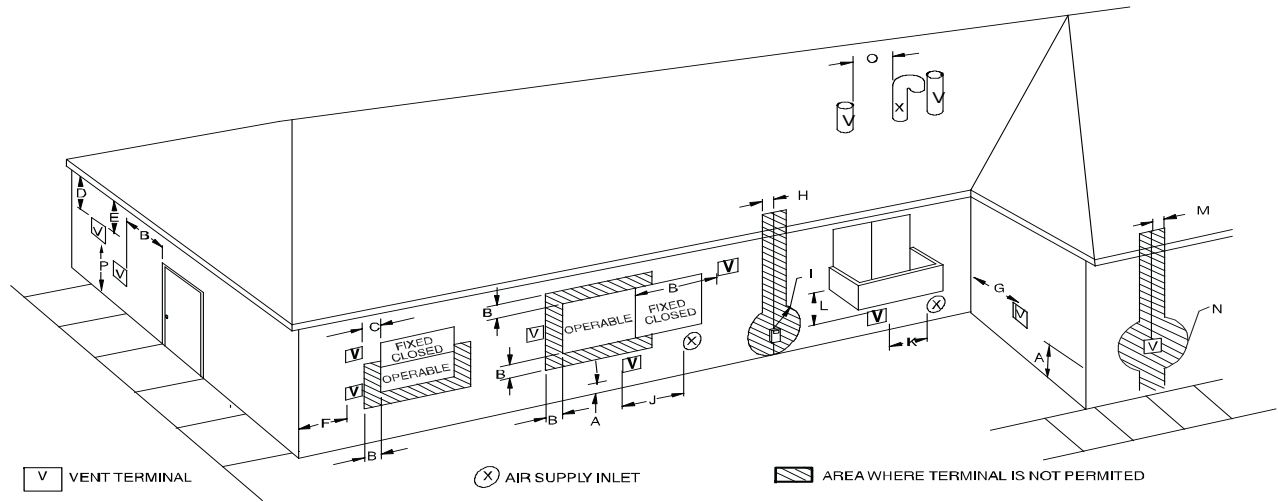
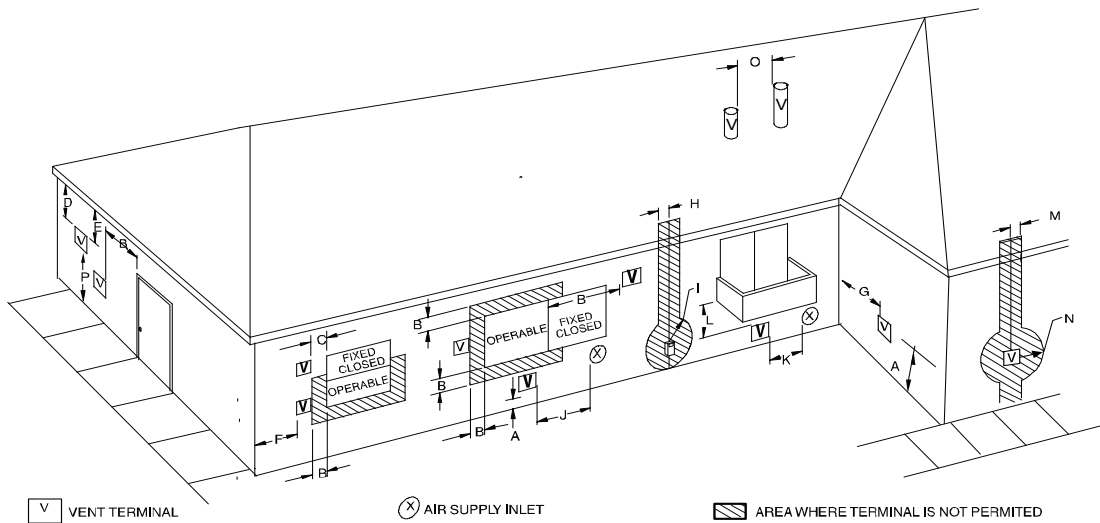
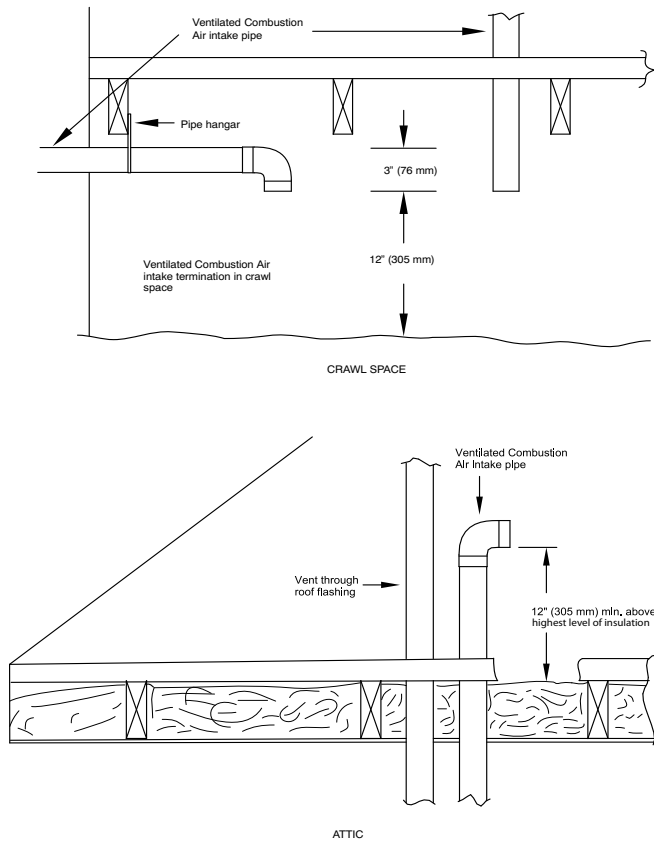

Fig. 42 – Direct Vent Termination Clearance
Fig. 43 – Ventilated Combustion Air and Non-Direct Vent Termination Clearance
Fig. 46 – Vent Terminations for Ventilated Combustion Air ^{A10497}
In a direct-vent (2-pipe) system, all air for combustion is taken directly from outdoor atmosphere, and all flue products are discharged to outdoor atmosphere. Combustion-air and vent pipes must terminate together in the same atmospheric pressure zone, either through the roof (preferred) or a sidewall. See Fig. 42 for references to clearances required by National code authorities.
In a ventilated combustion air option, the vent terminates and discharges the flue products directly to the outdoors similar to a direct vent system. See Fig. 43 for references to clearances required by National code authorities.
In a non direct-vent (1-pipe) system, all air for combustion is taken from the area adjacent to furnace, and all flue products are discharged to outdoor atmosphere. Air for combustion must be supplied as described in the Air For Combustion and Ventilation Section. Do not use an abandoned chimney to supply outside air to the furnace. See Fig. 43 for references to vent clearances required by National code authorities.
For vent termination clearance, references to National codes are shown in Fig. 42 for Direct Vent/2-Pipe system and Fig. 43 for Ventilated Combustion Air/Non-direct Vent/1-Pipe system. For exterior termination arrangements, refer to Fig. 39 for Direct Vent/2-Pipe system and Fig. 40 for Ventilated Combustion Air/Non-Direct/1-Pipe system. Contact Local code authorities for other requirements to and/or exemptions from the National codes shown in the figures.
1. Comply with all clearance requirements stated in Fig. 42 or Fig. 43 per application.
Direct vent (2-pipe) vent and combustion air pipes must terminate outside the structure. See Fig. 42 For references to vent clearances required by National code authorities. Allowable vent and combustion air terminations are shown in Fig. 39.
The vent pipe for a Non Direct Vent (1-pipe) system must terminate outdoors. See Fig. 43 for references to vent clearances required by National Code authorities. Allowable vent terminations are shown in Fig. 40.
The vent pipe for a Ventilated Combustion Air System must terminate outdoors. See Fig. 43 for references to vent clearances required by National code authorities. Allowable vent terminations are shown in Fig. 40. The combustion air pipe terminates in a well-ventilated attic or crawl space. Follow the clearances as shown in Fig. 46.